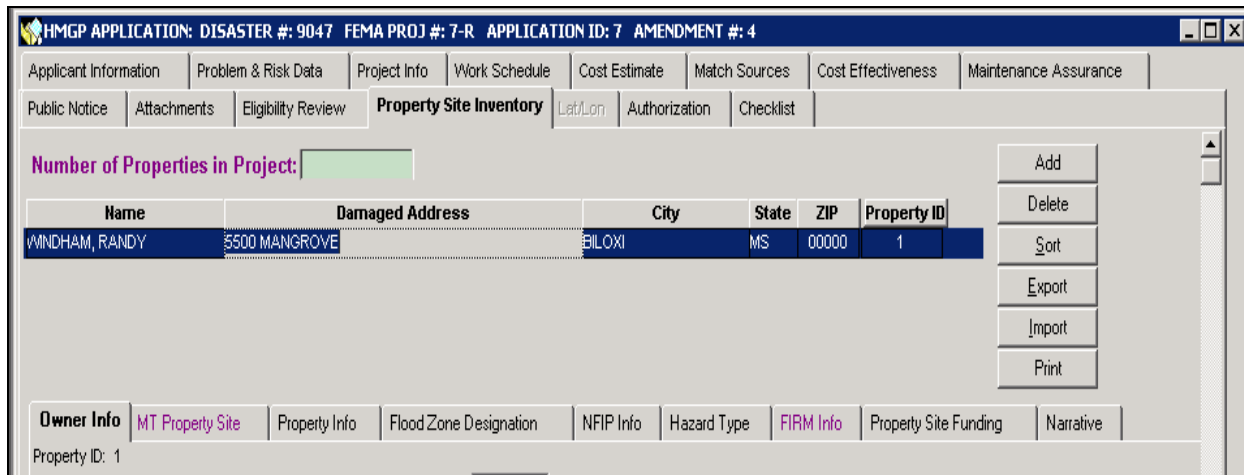

Figure 6-105: Mitigation > Projects > Application Development > Property Site Inventory Tab
1. Click the **Property Site Inventory** tab (Figure 6-105).